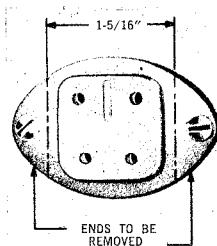

Fig. 14 — Modification of 493A Jack to Fit into KS-16151, List 1 Jack (See Note 2, Pg. 7)
- ▣ **6.03** The 493A jack (Fig. 14) may be modified to fit into the KS-16151, List 1 outdoor jack as follows:
1. Mark ends of jack as shown in Fig. 14.